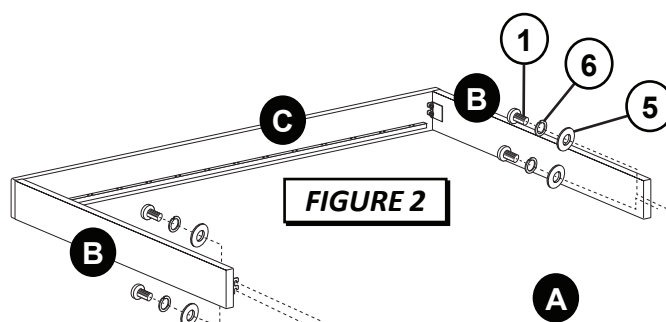

FIGURE 2
STEP 4 - Figure 2
STEP 2 - Figure 2